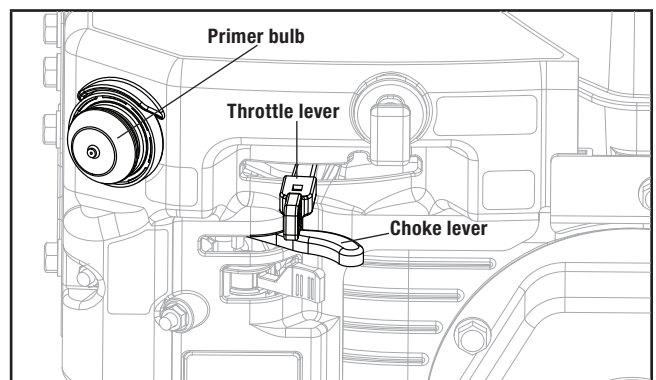

Figure 11B
3b. To start a warm engine, leave the choke lever to the run position (Fig. 11B).
4. Move the throttle lever to full speed to start the engine (Fig. 11B).
5. Use primer control depending on unit's temperature (Fig. 11B):
8. When the engine starts, move the choke to run position (Fig. 11B).